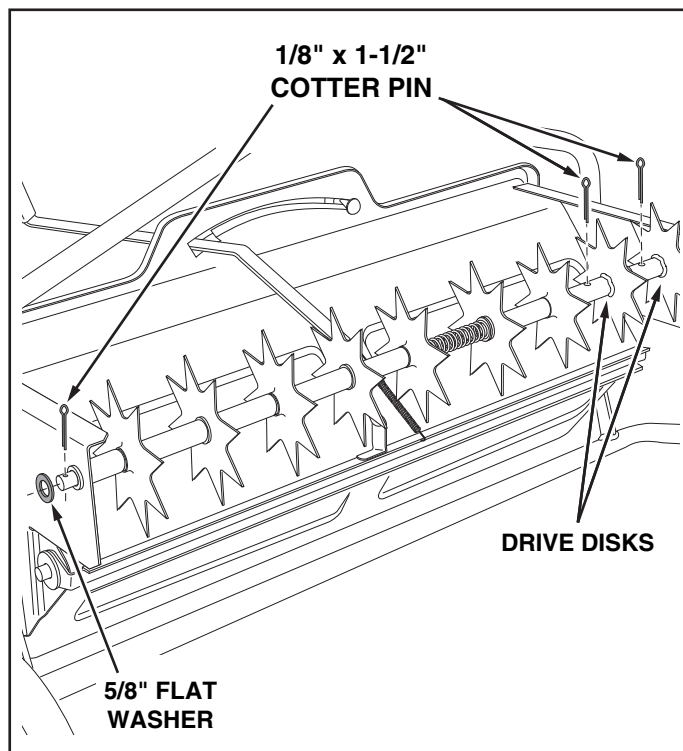

FIGURE 22
- Place a 5/8" flat washer onto the end of the spike disk shaft and secure the shaft with a 1/8" x 1-1/2" cotter pin. See figure 22.
- Fasten the two drive disks to the shaft using two 1/8" x 1-1/2" cotter pins. See figure 22.